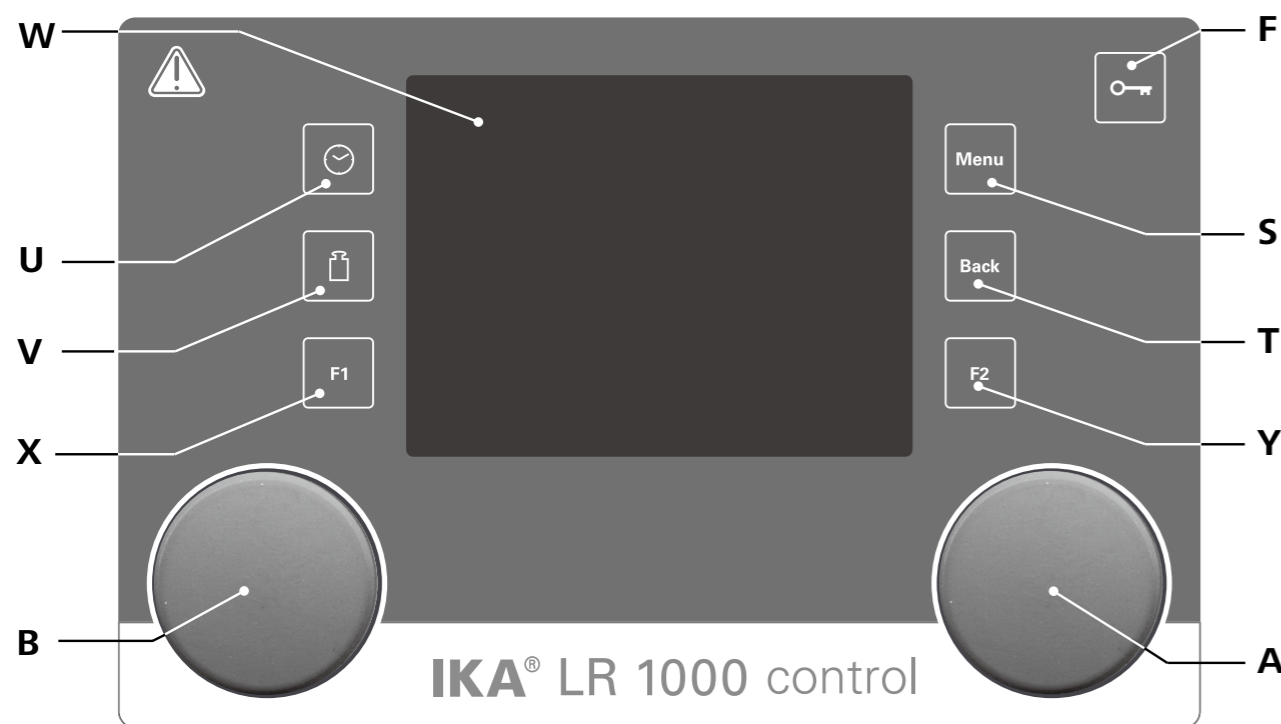

Fig. 12
Turn the rotating/pressing knob (A), the target speed setting can be adjusted on the working screen. Press rotating/pressing knob (A, see Fig. 12), the stirrer start to running. Turn the rotating/pressing knob (B), the temperature set-point can be adjusted. Press rotating/pressing knob (B, see Fig. 12) to activate the heating function.